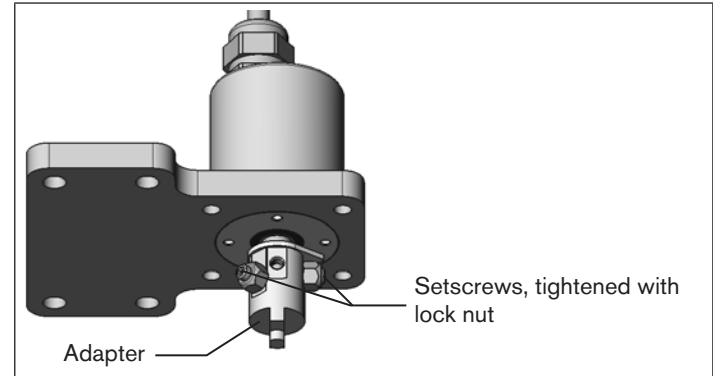

Fig. 22: Fitting the adapter
- Fit adaptor to the shaft of the rotating Remote Sensor and attach with 2 setscrews (see “Fig. 22”).